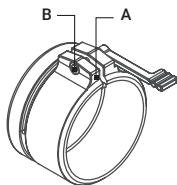

FIGURE 2-7. FRONT ADAPTER LEVER ADJUSTMENT
- 1) Loosen the locking screw (Fig.2.7, A) on the side of mount with the hex-nut wrench (1.5mm).
- 2) Tighten the adjustment screw (Fig.2.7, B) of lever with a clamping force necessary to ensure that the adapter fits tightly the objective lens.
3) Tighten the locking screw (A).